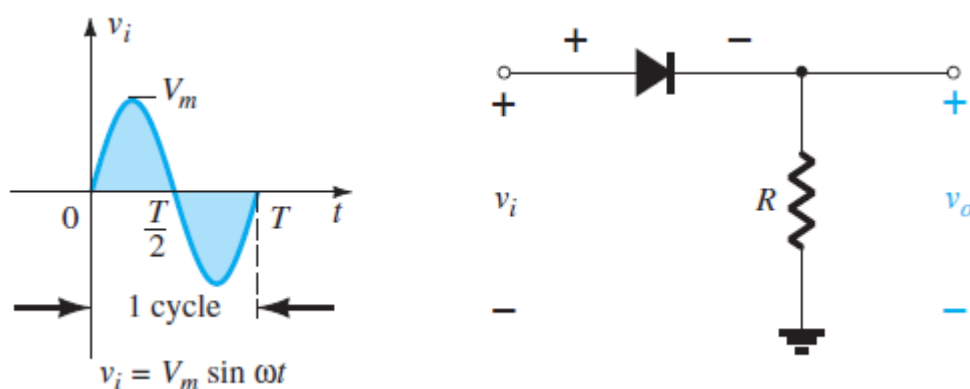

Figure 7.3.1: Half-wave rectifier.
1. Connect the circuit as shown in Fig. 7.3.1 with certain modifications.